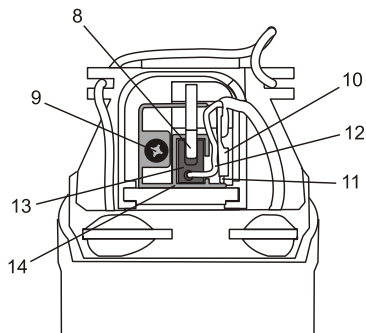

Fig. 10
9. Turn the tool on its back with the spindle pointing upward (Fig. 10).
- b) Make sure the end of the coil spring is placed on top of the carbon brush (Fig. 10).